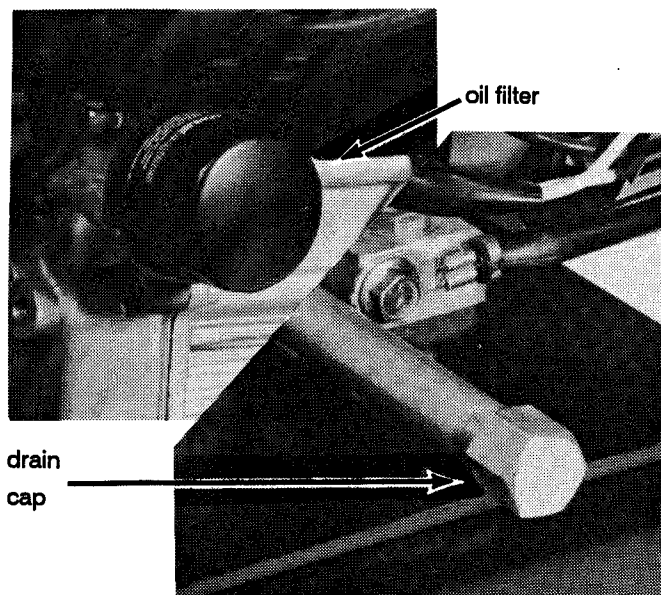

Figure 15. Engine oil filter and drain cap.
1. Remove engine drain cap and filter (Refer to Figure 15) on left-hand side of tractor. Drain oil into pan.
2. Replace plug and filter. Refill to full (F) mark on dipstick. **DO NOT OVERFILL.** Clean up spilled oil.